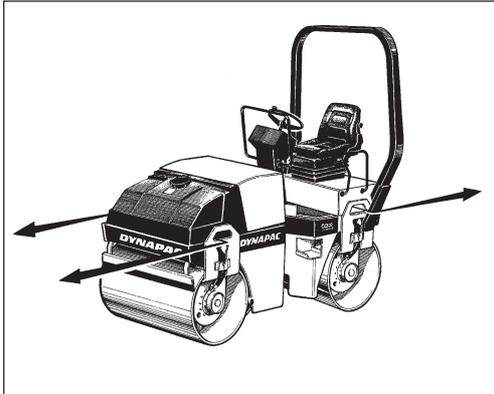

Fig. 38 Towing
1. Remove the center plug (1) (fig. 38) using a screwdriver.
2. Screw off the brake tool (1) from its threaded fixing hole. Then fix the brake tool (1) in the center hole by tightening the screw (2) until it bottoms in the hole. Tighten the nut (3) against the brake tool until it stops, indicating that the brake is now disengaged.
4. Screw out the nut again after towing. This returns the brakes to their normal mode. Screw off the brake tool and fit it back into its fixing hole. Refit the center plug (1) to counteract the formation of rust inside the threaded hole.